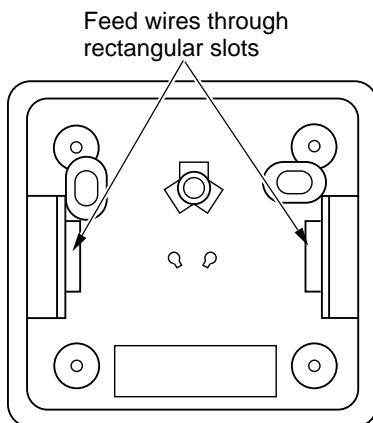

Figure 35 - Back View of Thermostat Base
- Feed the electrical wires through the rectangular slots (from the back) on each side of the base (see Figure 35).